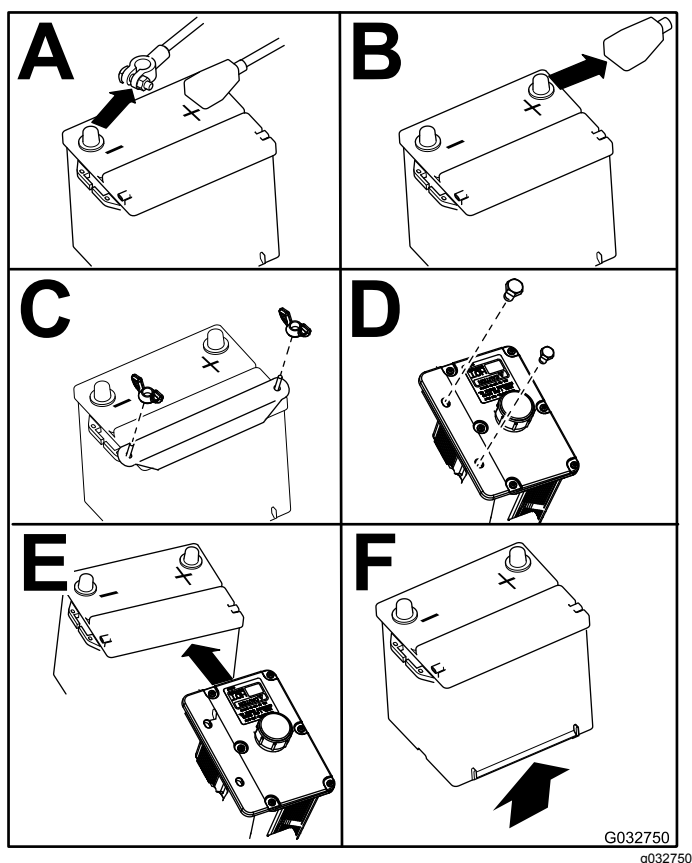

Figure 67
4. Remove the battery as shown in Figure 67.